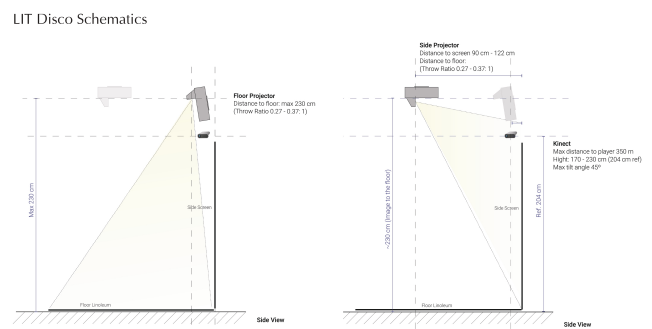

Figure 2. Side View Schematics for Projections.
- The screen projector is mounted on the dolly while still being attached to the vertical support of the projector stand. Demonstrated in fig 2.